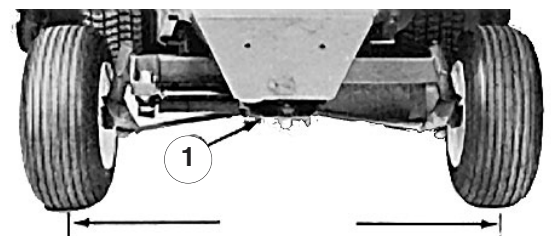

Figure 42
2. Loosen the jam nuts on both tie rods. Adjust both tie rods until center-to-center distance at the front and back of the rear wheels is the same (Fig. 42).